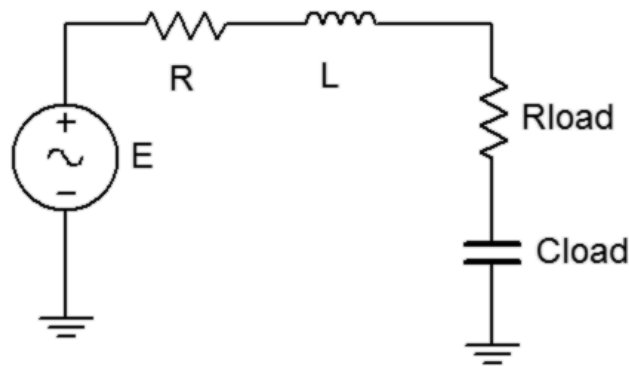

Figure 12.1
1. Build the circuit of figure 12.1 using $R=1\text{ k}\Omega$ and $L=10\text{ mH}$, but leaving off the load components. Replace the generator with a $50\text{ }\Omega$ resistor and determine the effective source impedance at 10 kHz using the impedance meter. Record this value in Table 12.1, including both magnitude and phase. Determine the load impedance which should achieve maximum power transfer according to the theorem and record in Table 12.1. Finally, determine values for R_{load} and C_{load} to achieve this load impedance and record in Table 12.1, also copying the resistance value to the first R_{load} entry of Table 12.2.